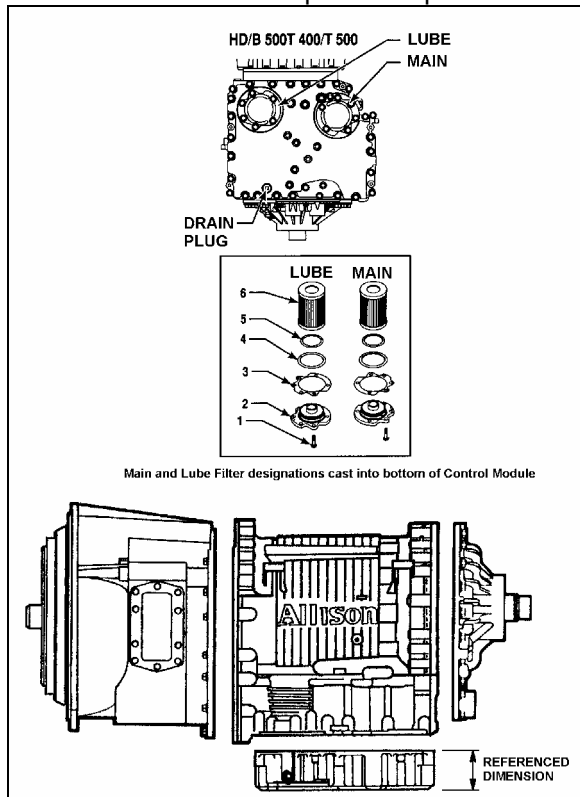

FIGURE 7: DRAIN PLUG AND FILTERS 07052
2. Remove the drain plug from under the transmission (Fig. 7) and allow the oil to drain
3. To replace the integral filters, remove twelve bolts (6 on each cover), two filter covers, two O-rings, two square cut seals and the two filters from the bottom of the control module (Fig. 7).